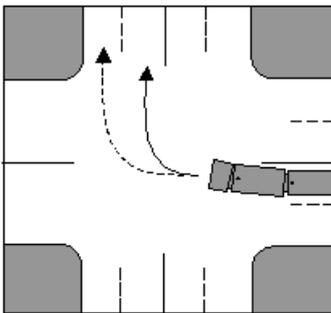

Fig 6
33.3.1 right from a laned road, you must begin your turn from the lane that is just to the left of the centre of the road (Fig. 6);
33.3.2 right into a laned road, you must where practicable, enter the lane nearest to the centre of the road (Fig.6);